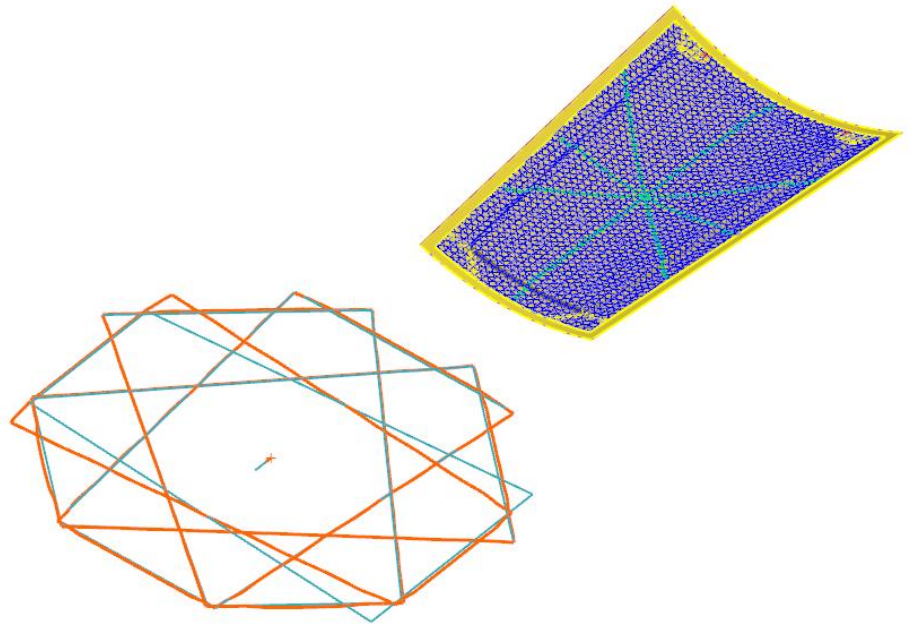

Figure 7–39
- Switch to the NX window to display the net flat pattern results as shown in Figure 7–39.